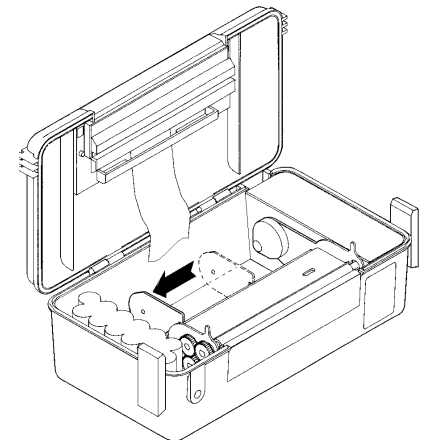

Figure 3. Loading label stock
4. Gently push the spring loaded support arm all the way to the left and hold it there (see Figure 3).